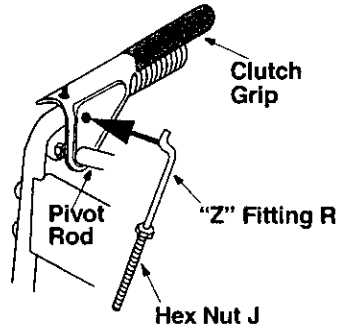

Figure 7
- Since the Z fitting is already inserted into the hole on the clutch grip at this point, thread a hex nut (J) from hardware pack D on to each Z fitting. See Figure 7.
- If necessary, loosen the hex lock nut and thread the cable in (for less slack) or out (for more slack) as necessary. Refer to Figure 7.